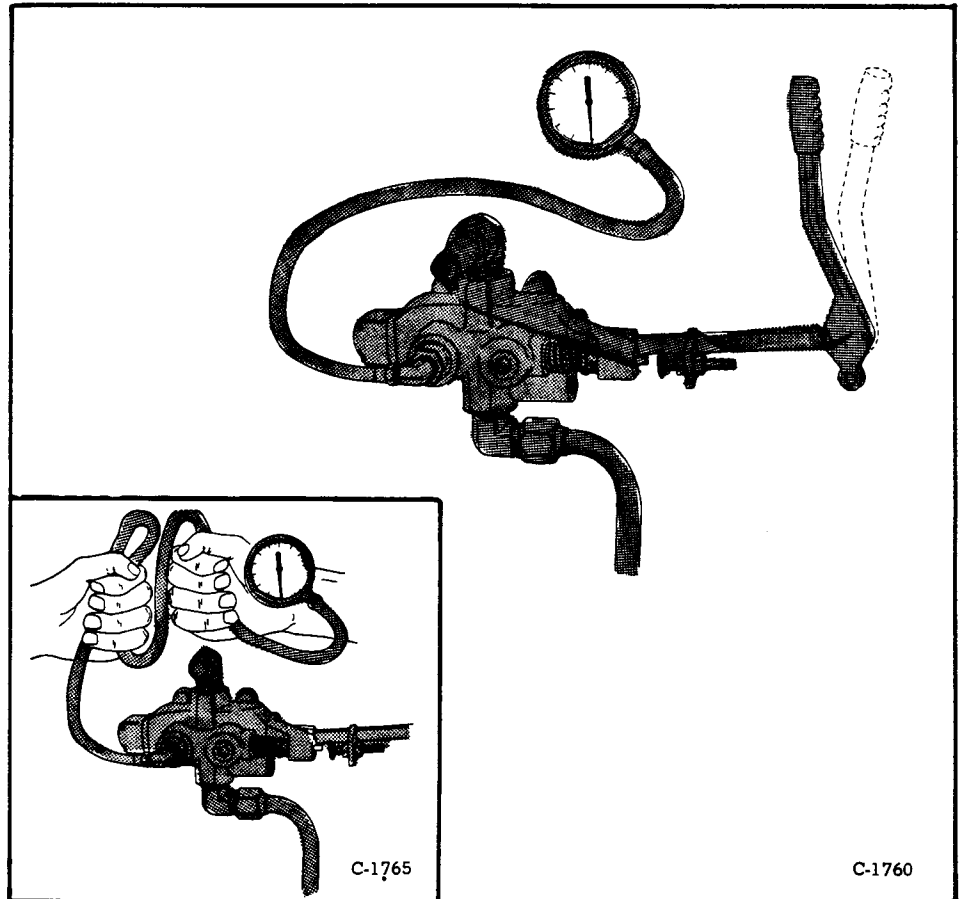

Fig. 10 Adjust Variable Speed Valve
- (1) Connect at 1000 PSI (6895 kPa) pressure gauge and hose to the rear port of the variable speed control valve (Fig. 10).
- (2) Start the engine and run at fast throttle position.
- (3) Put the variable speed control lever in the forward position and hold it there.
- (4) The pressure gauge will show the raising pressure. The pressure should be from 350 to 550 PSI (2413 to 3792 kPa).
- (5) Return the lever to the neutral position and check the thermal relief valve holding pressure.
- (6) To check the thermal relief valve, bend the hose as shown in figure 10. Bend the hose until the gauge reaches the highest pressure and then has a sudden decrease in pressure. The highest pressure reading is the holding pressure of the thermal relief valve.